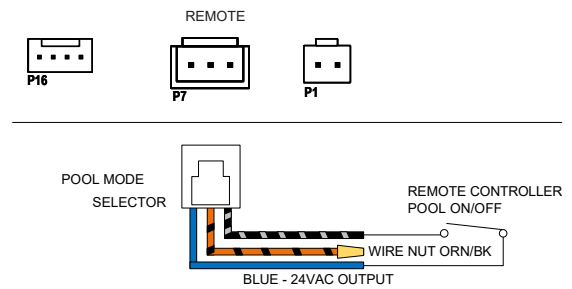

**Figure 58. 3-Wire Remote Harness Installation**
5. On the 3-wire remote interface harness, connect the BLUE wire to one side of the remote automation controller and connect the ORANGE/BLACK wire for "SPA" operation and the BLACK/ORANGE wire for the "POOL" operation. See Figure 58.
6. Install the 3-wire remote interface harness to the "P7" connector and turn power ON to the heater. See Figure 58.
10. For 3-wire control, connect the BLUE wire to one side of the remote controller and connect the ORANGE/BLACK wire for "SPA" operation and the BLACK/ORANGE wire for the "POOL" operation. See Figure 58.